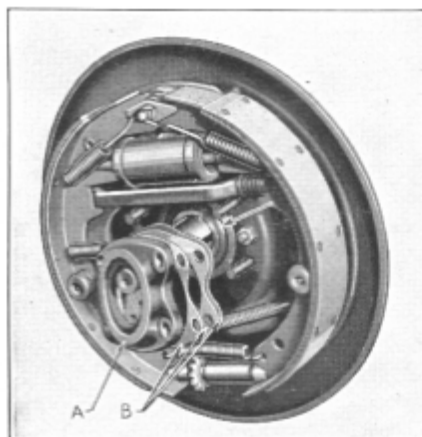

Figure 15
The transmission should be filled with lubricant to the level of the filler plug (A), Figure 15, at all times. Drain the lubricant with change of season by removing plug (B) and replacing with three pounds (or pints) of fresh oil of the proper specifications.
To adjust rear wheel bearings, jack up rear axle and remove both rear wheels and hubs. Remove the four nuts from bearing cap (A), Figure 15, and push the bolts out of the backing plate to permit removal of the bearing cap without disturbing the hand brake operating link. By removing shims (B) under the cap the end play of the axle shaft is decreased. Total play between